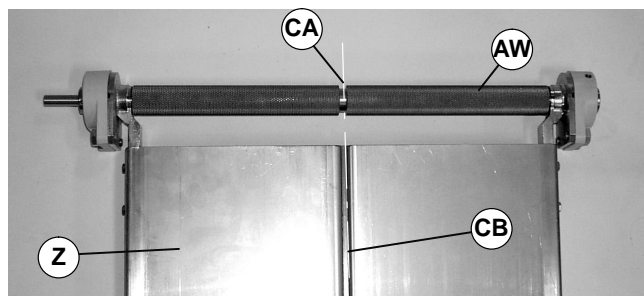

Figure 46
IMPORTANT: Before tightening set screws on bearing and head plate assemblies, make sure that center of groove (CA of Figure 46) on spindle (AW) is in line with center of groove (CB) on conveyor (Z).
5. Make sure center of groove (CA of Figure 46) on spindle (AW) is aligned with center of groove (CB) on conveyor (Z).